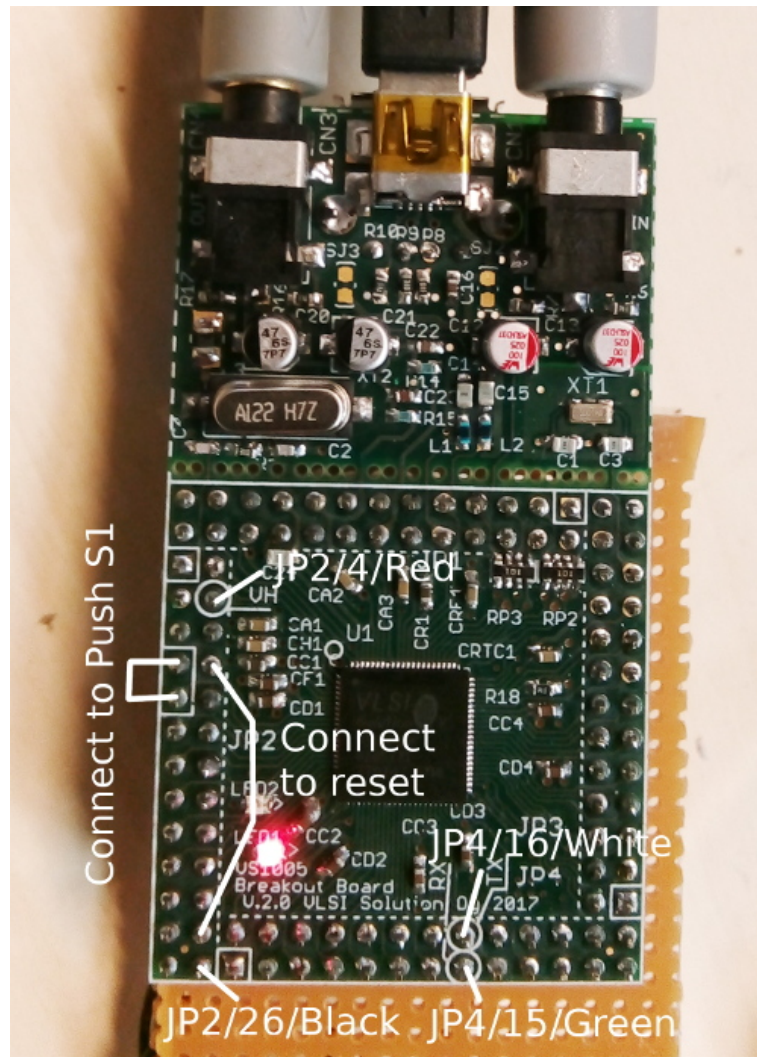

Figure 1: How to connect the VS1005 Breakout Board.
- A 3.5 mm stereo line in plug to CN1, located on the top right of the BoB in Figure 1.
- A 3.5 mm stereo line out plug to CN4, located on the top left of the BoB in Figure 1.
- USB cable between BoB and PC for uploading new software. The Mini USB plug is inserted to the to right connector on the BoB in Figure 1.
to the BoB as follows: Black to JP2/26 (or any other ground), White or Yellow to JP4/16, Green to JP4/15, and finally Red to JP2/4, as shown in Figure 1.
To power up the VS1005 BreakOut Board, connect a 5V power source to VHIGH (JP2/4). For testing you can power the board with the VSIDE USB UART cable connected as shown in Figure 1 on Page 7.